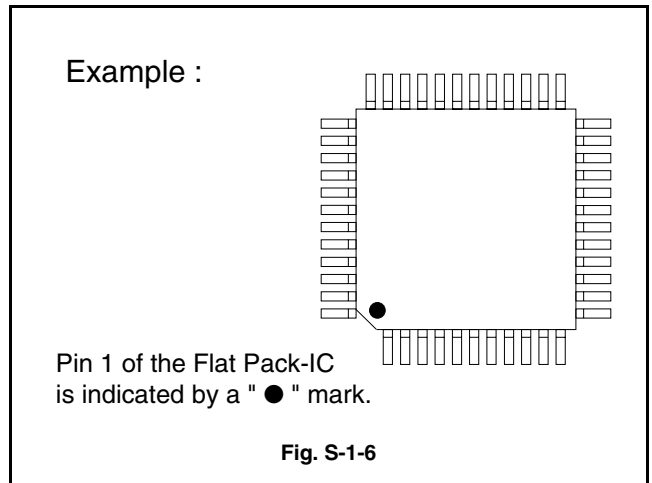
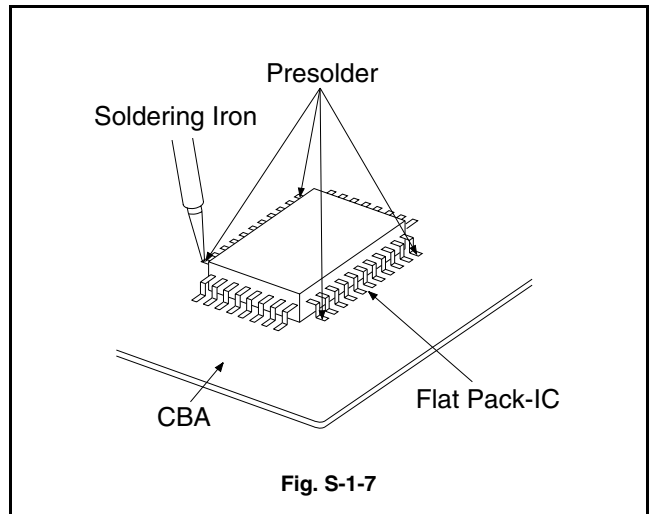

Fig. S-1-6
Fig. S-1-7
- b. The "●" mark on the Flat Pack - IC indicates pin 1 (See Fig. S-1-6). Make sure this mark matches the 1 on the CBA when positioning for installation. Then pre - solder the four corners of the Flat Pack- IC (See Fig. S-1-7).